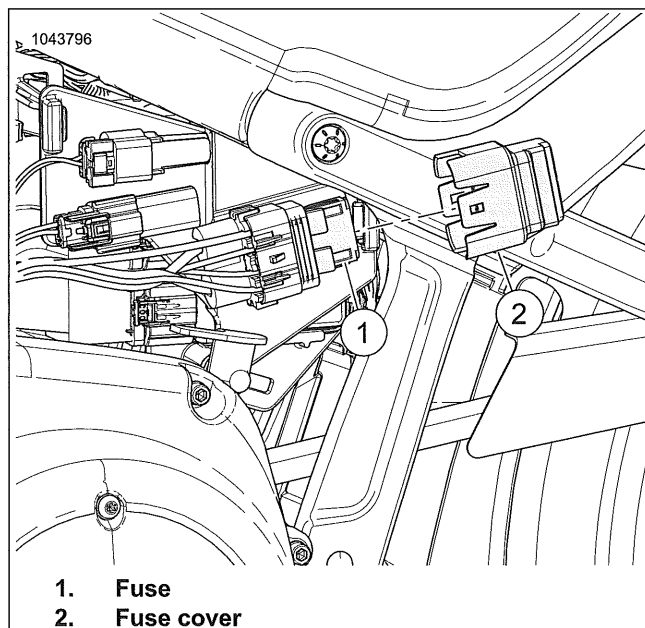

Figure 7-4. Main Fuse
3. See Figure 7-4. Remove fuse cover (2).
4. Remove main fuse (1).
1. See Figure 7-4. Install main fuse (1).
2. Install fuse cover (2).